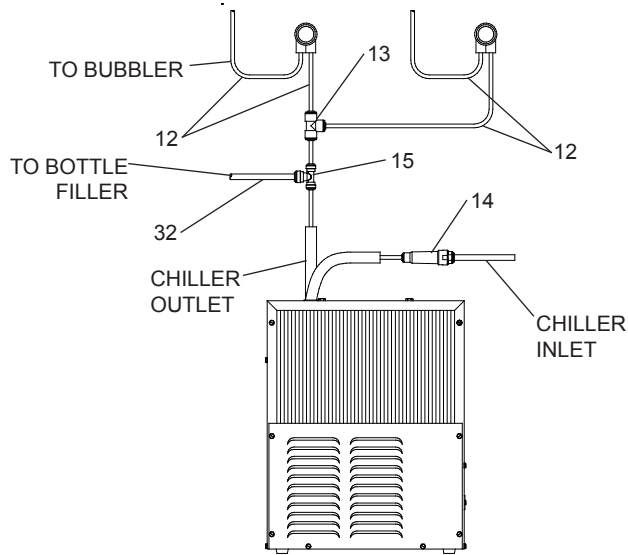

Figure 2 - HTHB-OVLSER-I Tube Routing
- 3a. (For HTHB-OVLSER-I)** Install strainer on the input tube to the chiller (Fig. 2).